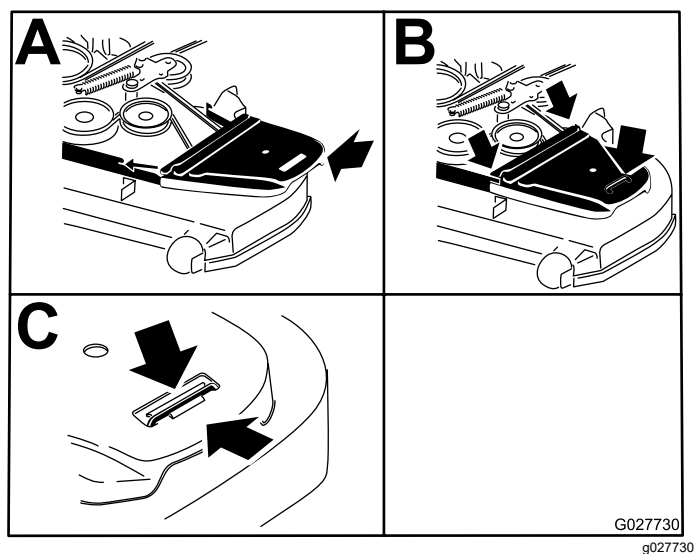

Figure 66
15. Install the belt covers (Figure 66).